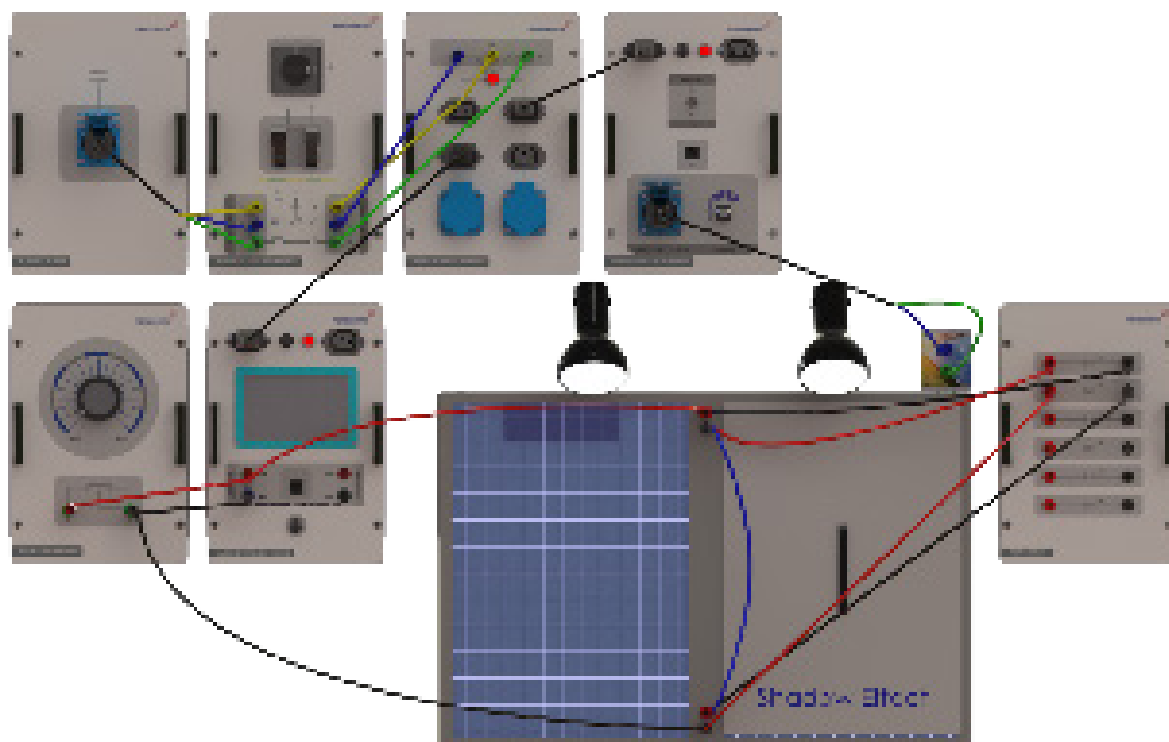

Figure-6
- 11) Connect the bypass diodes to both panels as shown in figure-6 and use the shadowing device to shadow panel-1. (Notice that the diodes are cross connected.)